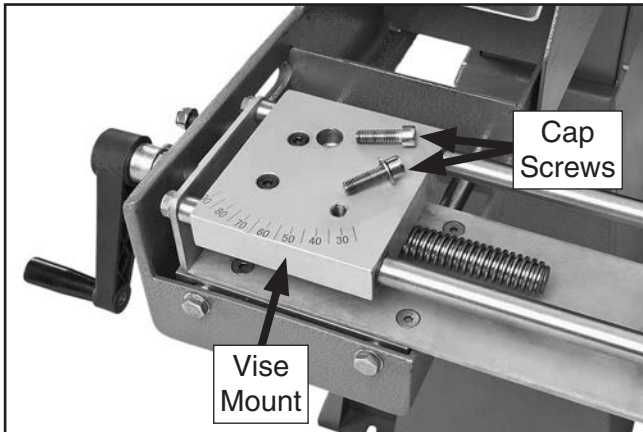

Figure 15. Vise mounting cap screws.
16. Remove the two pre-installed vise mounting cap screws shown in **Figure 15**.